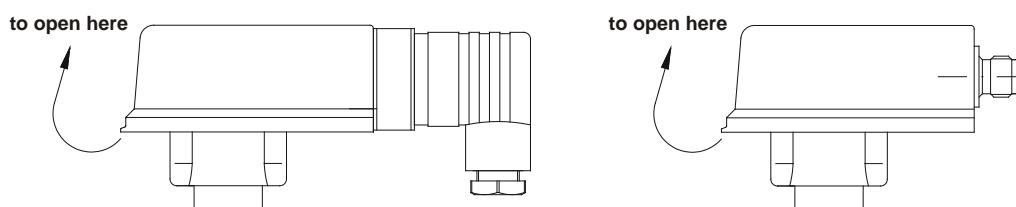

Fig.14
- ⚡ To adjust the reed switching unit, open the junction box of the switch head (→ Fig. 14) (does not apply for VK60...)